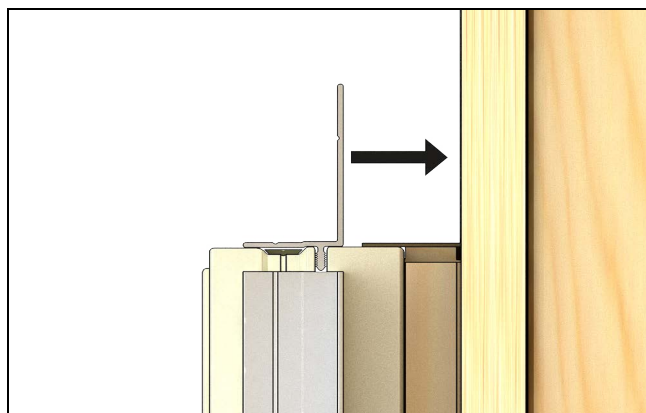

Figure 8
4. **On units with optional aluminum nail fin:** Manually fold out the nail fin until it is perpendicular to the frame. Take care during handling and installation not to damage the corner gasket. After the unit is secured in the opening, fold the supplied drip cap to an "L" shape as shown and install per unit flashing instructions. See Figure 8.